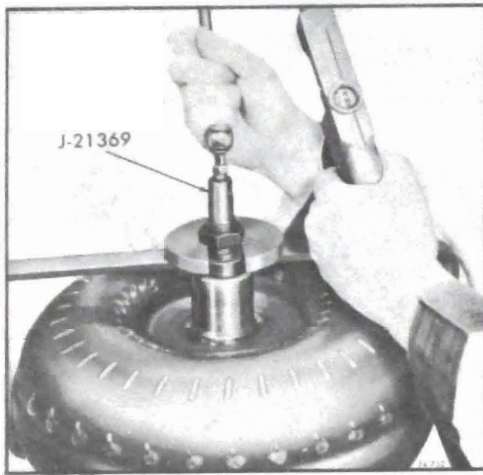

Figure 76-732
1. Check converter for leaks as follows: (See Figure 76-732.)